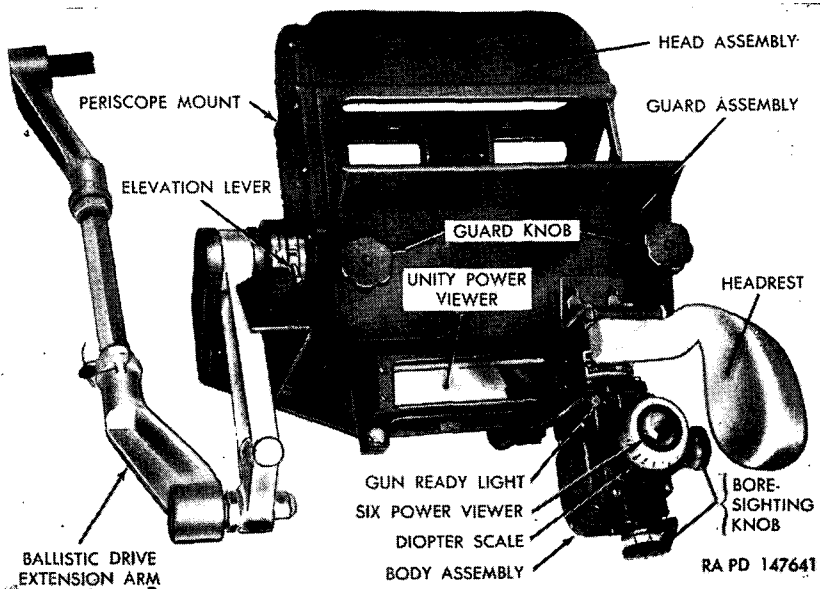
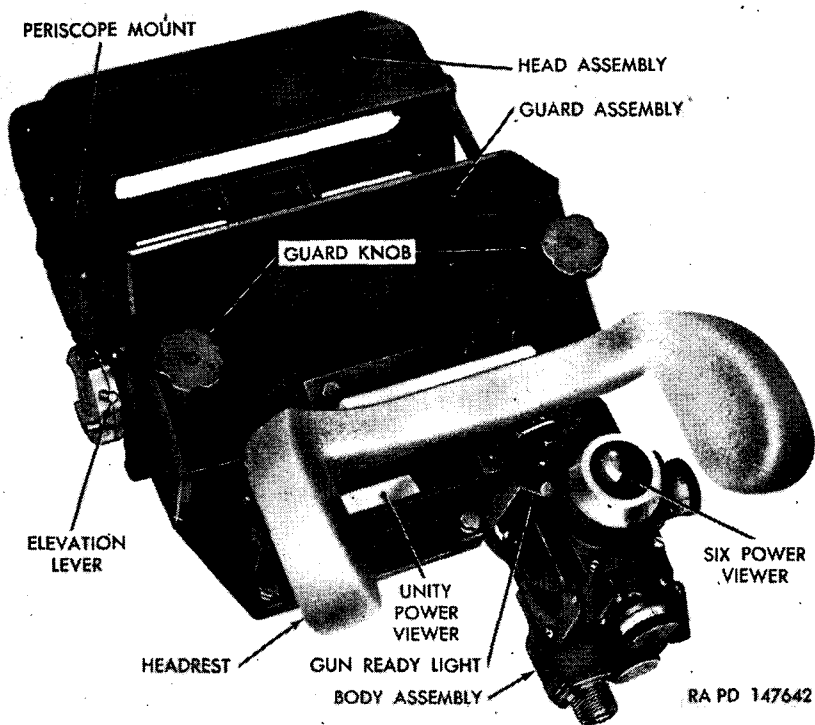

Figure 47. Periscope T35 installed in commander's periscope mount T177.
Figure 48. Periscope T35 installed in gunner's periscope mount T176.
- (1) *General.* The periscope T35 (figs. 47 and 48) is a monocular-type instrument having two built-in optical systems: with a 33-degree 18-minute vertical and 7-degree 9-minute horizontal field of view for wide, close-in vision of the terrain and a six-power system with an 8-degree field of view for sighting on distant targets. The periscope is composed of two separate parts: a head assembly (fig. 47) which is supported in the periscope mount by two clamping screws; and a body assembly (figs. 47 and 49) which is secured to the periscope mount by four screws.
- (2) *Commander's periscope.* The commander's periscope T35 serves as a target-designating device. It is supported in the commander's periscope mount T177 (fig. 47). An elevation lever assembly couples the periscope to an arm and connector on the commander's periscope mount which in turn is connected to an extension arm on the ballistic drive. Thus the commander's periscope moves with the gunner's periscope and the gun as the gun is elevated or depressed.
- (3) *Gunner's periscope.* The gunner's periscope T35 serves as a secondary sight for fire control. It is supported in the gunner's periscope mount T176 (fig. 48). An elevation lever assembly couples the periscope directly to the shaft of the ballistic drive. Thus the gunner's periscope moves with the commander's periscope and the gun as the gun is elevated or depressed.
- (1) *Elevation lever.* An elevation lever assembly (figs. 47 and 48) is provided so that the line of sight of the periscope may be manually elevated 22° or depressed 18° from zero elevation. However, when the periscope is installed for secondary direct fire sighting, the maximum elevation is 20° while the maximum depression is 14° . The lever is spring loaded to allow it to return to the level line of sight or, if installed for secondary direct fire, to the same elevation as the gun.
a. DESCRIPTION. The gunner's periscope mount T176 (fig. 48) and the commander's periscope mount T177 (fig. 47) are used to support periscope T35. Both mounts are attached to the turret roof. A guard (figs. 47 and 48) is provided at the rear of each mount to protect the observer should the periscope head assembly be hit. Two knobs secure the guard to the mount. The gunner's mount has a full headrest; the commander's mount a half headrest. An arm and connector on the left side of the commander's mount connects the elevation lever assembly of the periscope T35 to the extension arm on the ballistic drive. An elevation level assembly on the commander's mount is used to level the mount.
b. GUN READY LIGHT (figs. 47 and 48). A cable from the loader's safety panel is connected to the receptacle at the base of the periscope